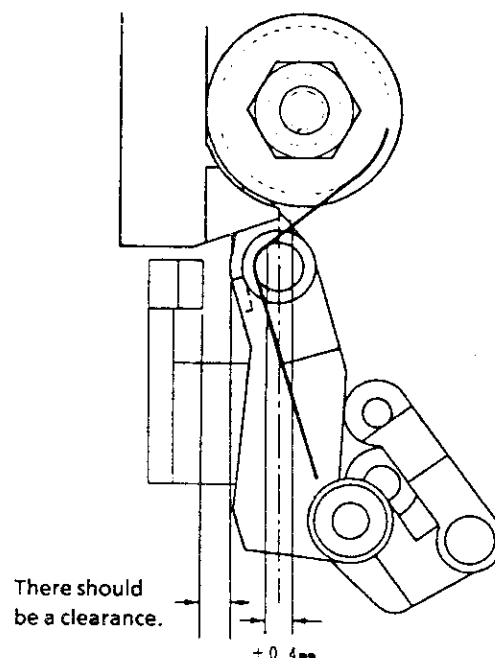

Figure. 2-7-a
- 3) Loosen the tension arm position adjusting screw and adjust the tension arm position adjusting bracket so that the right side of the tension pole fits the tip of the triangle mark. (See Fig. 2-7- b)